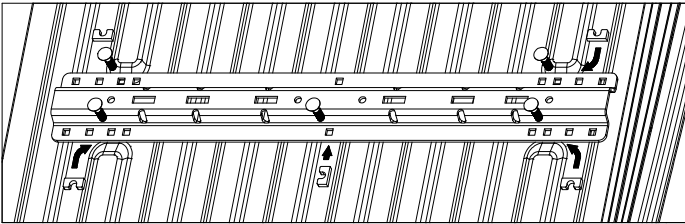

Figure E1: View of truck bed from the tailgate.
1. **Install the rear mounting rail.** Re-position the rear mounting rail over the drilled 9/16" holes in the bed. Place 3/8" U-shaped spacers where needed between the bed and the mounting rail. Next, place a 1/2" x 2" carriage bolt through the mounting rail and into each of the five drilled locations, see Figure E1. Under the bed place 3/8" U-shaped spacers where needed between the bed and the side plate flanges. Attach each of the carriage bolts with an offset rectangle washer, lock washer, and nut. Hand tighten each nut.